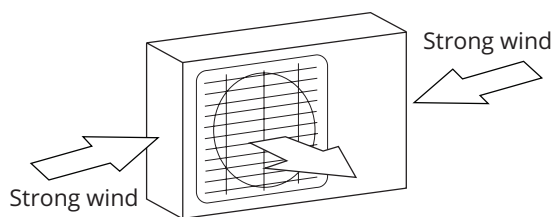

Fig 6.1
- ❑ If the location is exposed to strong winds (for example: near a seaside), the unit must be placed against the wall to shelter it from the wind. If necessary, use an awning with at least 18" of clearance. (See Fig. 6.1 & 6.2)